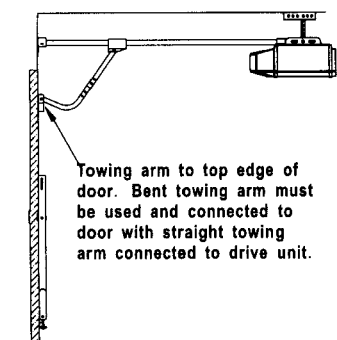

Fig 1A
- Refer to Figs 1A~C in order to identify Garage Door type and length of rail required.